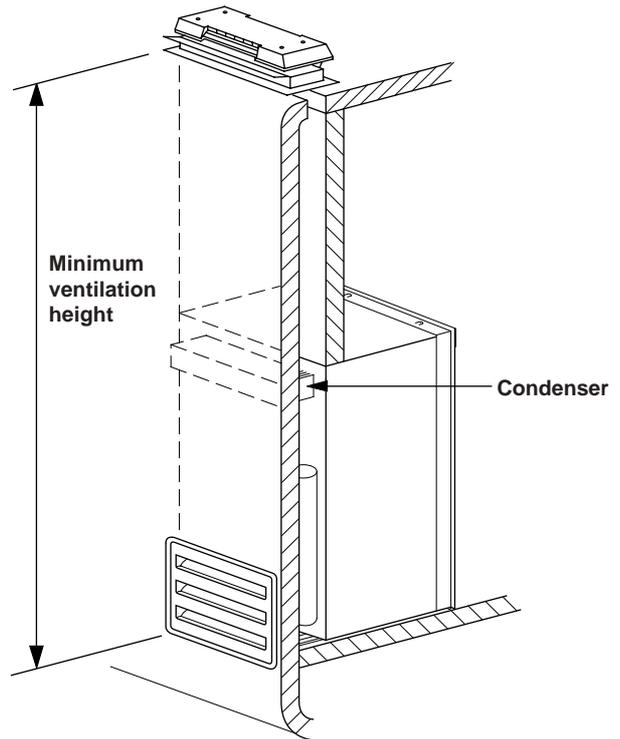

FIG. 6
The method of installation is shown in FIG. 6.
**NOTE:** Clearance “N” is the distance between the bottom of the lower side vent to the roof material. For ventilation height, see table **VENTILATION HEIGHTS**. See Figures 6 and 7.